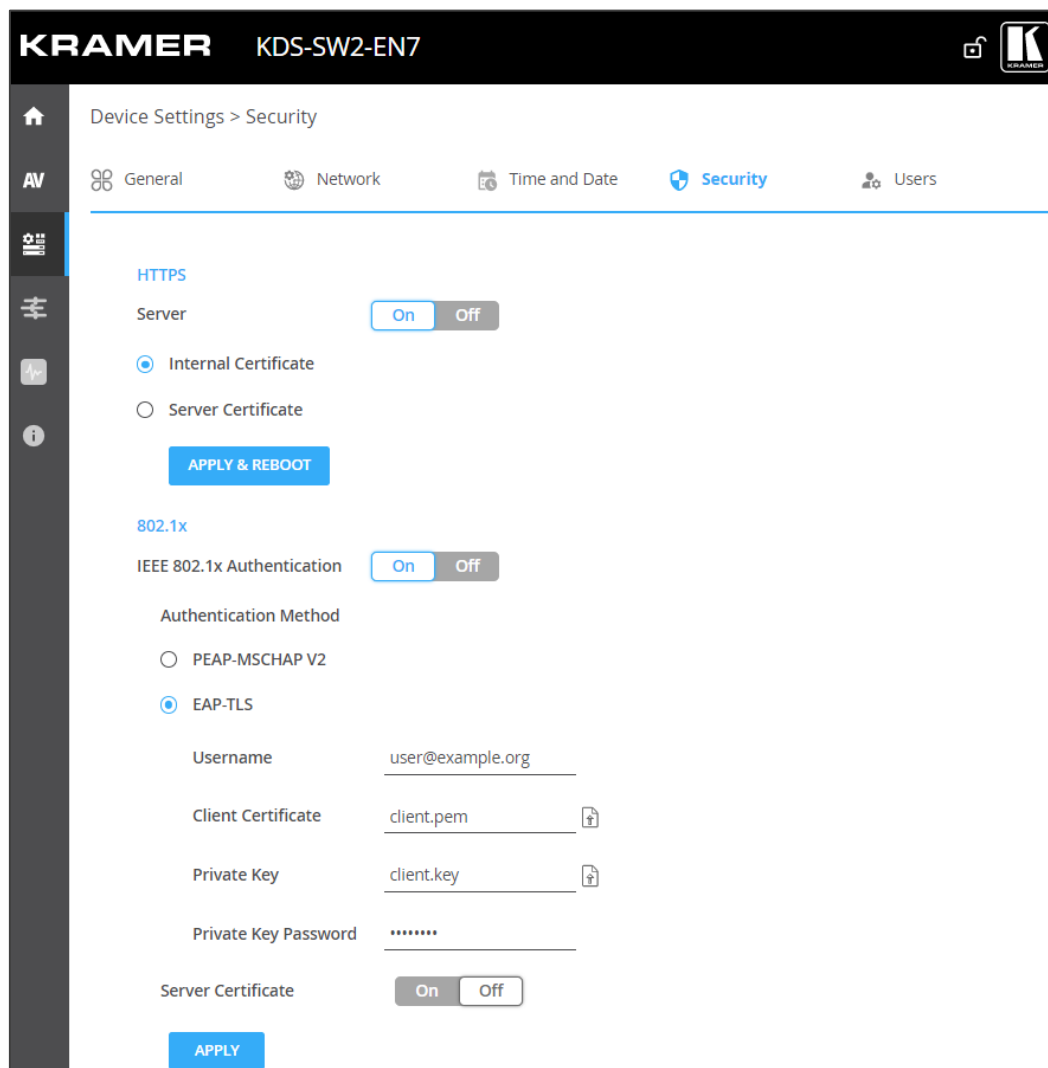

Figure 21: Device Settings Page – Security Tab
2. Select **Security** tab. The Security tab appears (see Figure 21).